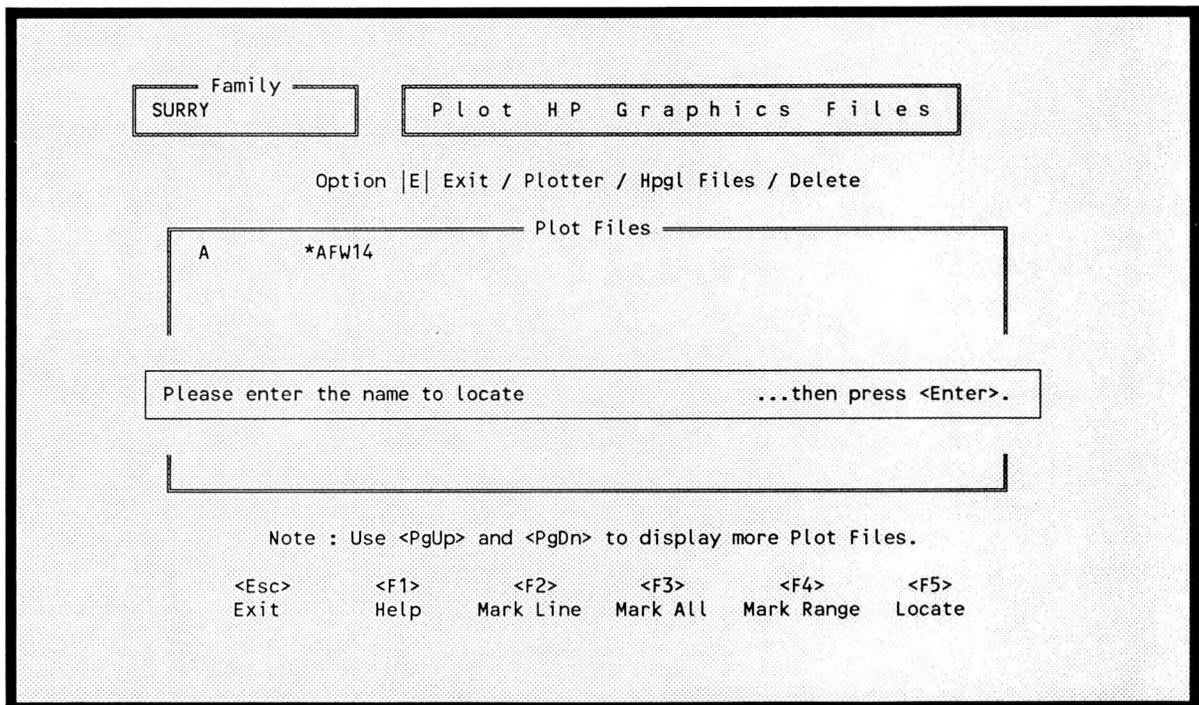

Figure 148. Locate a specific file prompt.
- <F5> - Allows you to locate a specific file for further processing. When you invoke this function, Figure 148 will be displayed. Enter the file name to locate and press <Enter>. The specified file will be highlighted. If the file name does not exist, an error message will be displayed, and you will be returned to the previous screen.